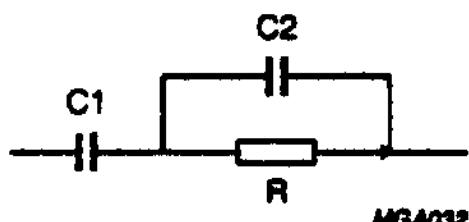

Fig.8 Loop filter.
- $I_{CP}$  = charge-pump current (A)
- $C_1$  and  $C_2$  = loop filter capacitors (see Fig.8)